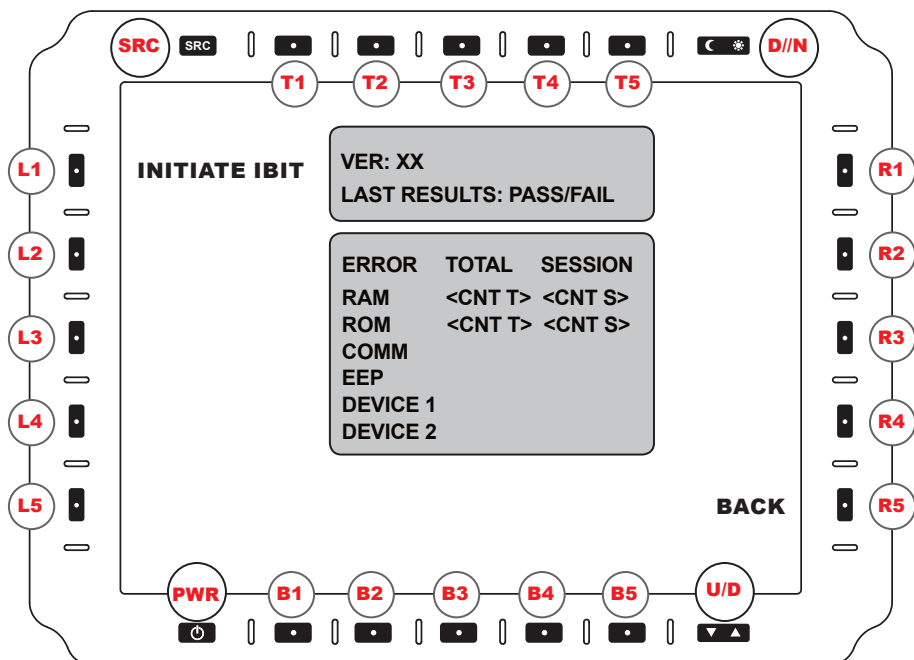

FIGURE 10
**INITIATE IBIT (L1).** Running the INITIATE BIT (IBIT) allows the user to confirm all systems are functioning. Results are shown as counts per category in the test log box in the center of the display screen. Select INITIATE IBIT to start the process (Figure 10).
**TEST LOG BOX FIELDS.** See Figure 10 for example. The Test Log Box Fields indicate the following: